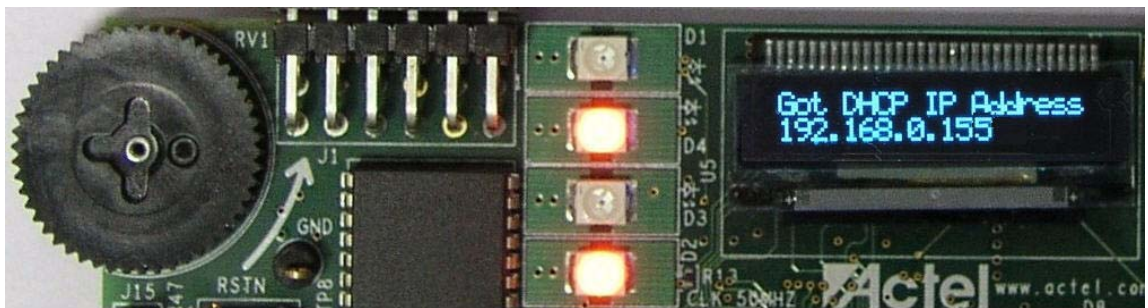

Figure 2-17 · DHCP IP Address Received
11. The OLED displays the DHCP IP address, as shown in Figure 2-17.